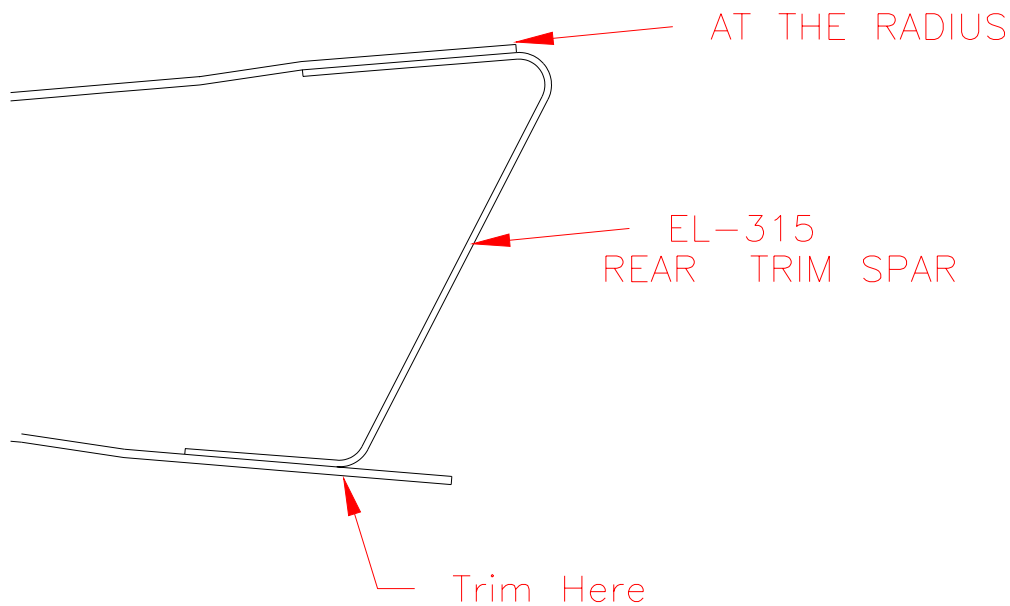

Figure 3.5.5
18) Position the Trim Rear Spar (EL-315) as in Figure 3.5.5.